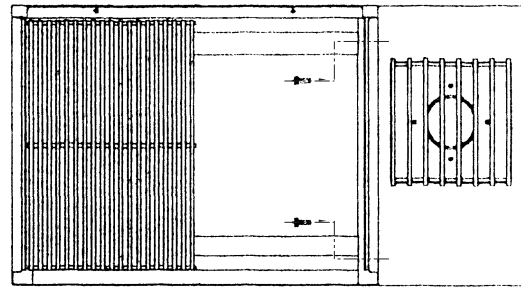

FIG. 2
2. Attach the side burner cabinet assembly to the grill using the nuts, bolts, and washers supplied as shown in fig.2.